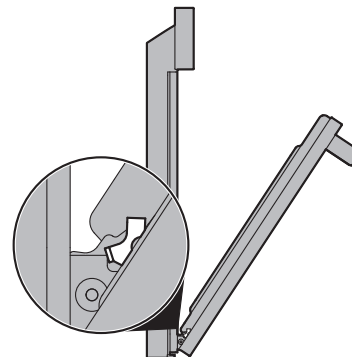

Figure 25: Removal position
3. Grasp the door by the sides, and close the door until the door frame makes contact with the unlocked hinges (Figure 25).
2. Hold the oven door at the same angle as the removal position (Figure 25). Carefully insert the hinge levers into the oven frame until you feel the hinge levers are seated into the hinge notches. The hinge arms must be fully seated into the hinge notches before the oven door can be fully opened.